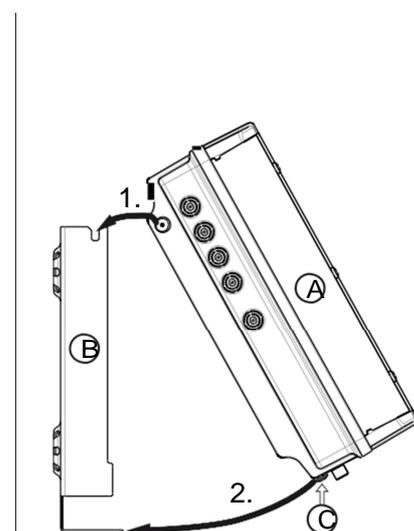

Abb. 3: Insert the head-end
1. Mount the wall mounting plate horizontally on the mounting surface; see Ⓐ in Fig. 3. Points to note:
2. Insert the head-end Ⓐ into the wall mounting plate Ⓑ see Fig. 3.